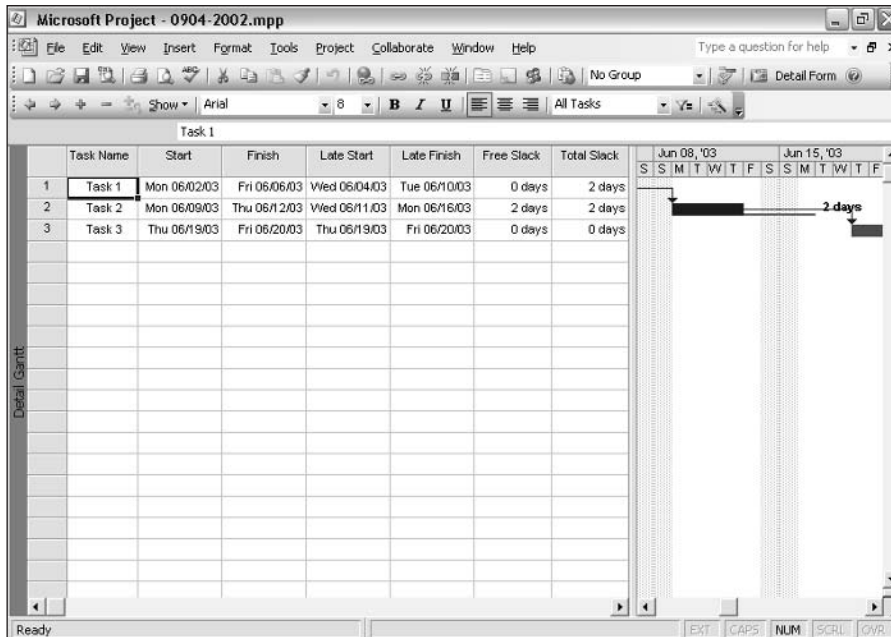

Figure 9-5: You can find slack time in tasks by using the Detail Gantt view and the Schedule table.
4. Drag the divider bar to the right to view more of the table. Now you can see the Free Slack and Total Slack fields, as shown in Figure 9-5.